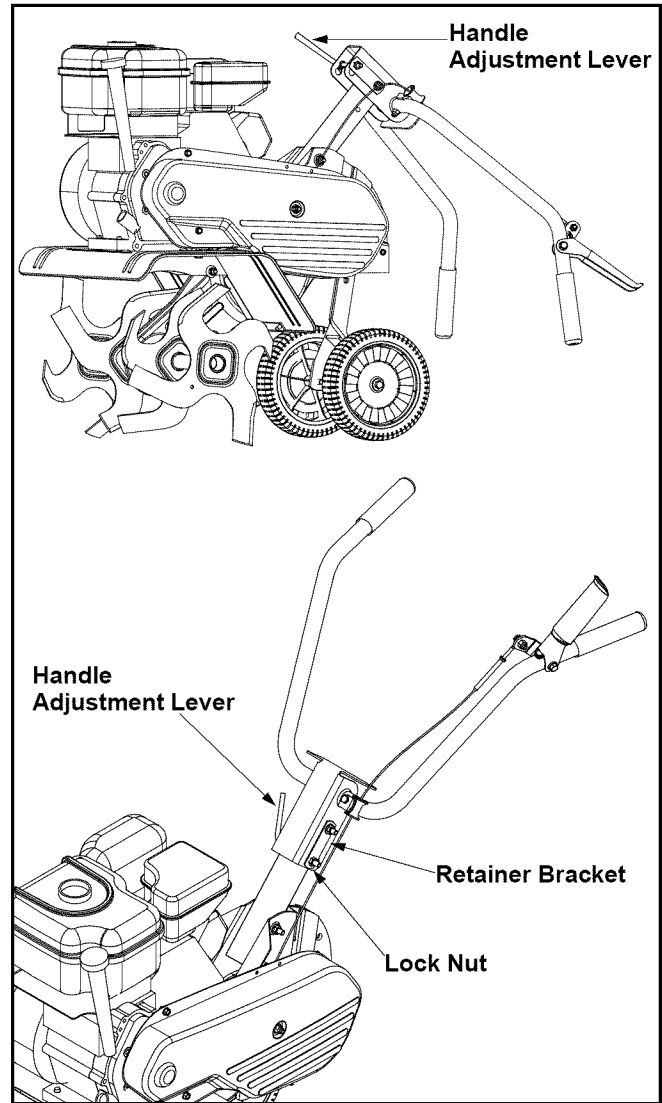

Figure 1
- Remove the handle adjustment lever from handle and lift up upper handle to raise in operating position. See Figure 1.